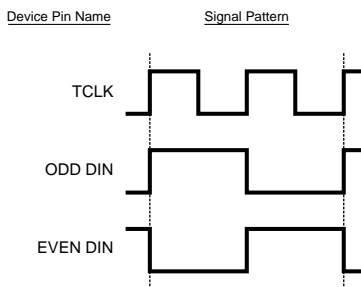
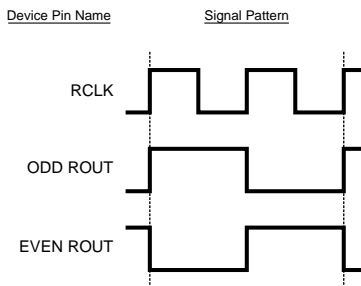
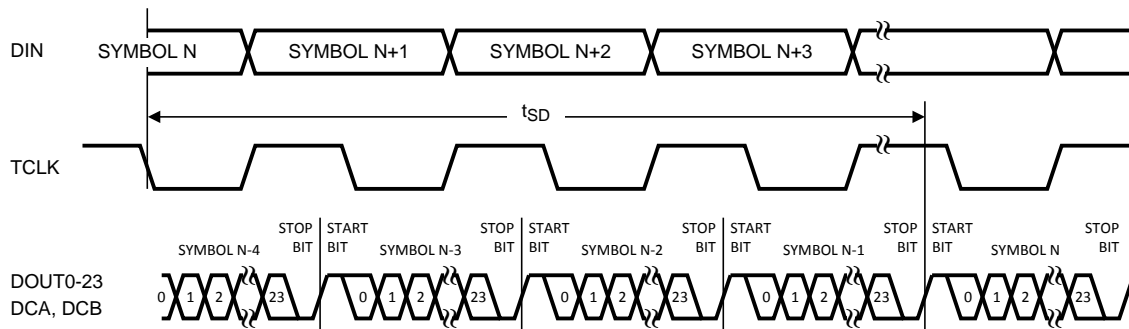

Figure 1. Serializer Input Checker-board Pattern
Figure 2. Deserializer Output Checker-board Pattern
Figure 8. Serializer Delay
(5) Digital, PLL, and Analog VDDs
(6) Figure 1, Figure 2, Figure 8, Figure 12, Figure 14 show a falling edge data strobe (TCLK IN/RCLK OUT).
(1) Specification is guaranteed by characterization and is not tested in production.
(2) When the Serializer output is at TRI-STATE, the Deserializer will lose PLL lock. Resynchronization MUST occur before data transfer.
(3) Figure 1, Figure 2, Figure 8, Figure 12, Figure 14 show a falling edge data strobe (TCLK IN/RCLK OUT).
(4) t_{JIT} (@BER of 10e-9) specifies the allowable jitter on TCLK. t_{JIT} not included in TxOUT_E_O parameter.
(5) UI – Unit Interval, equivalent to one ideal serialized data bit width. The UI scales with frequency.